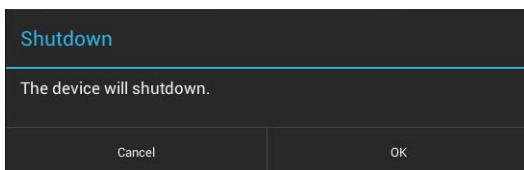

FIG. 12 Shutdown window
1. In the *Maintenance* page, select **Shutdown**. This opens the *Shutdown* window (FIG. 12):